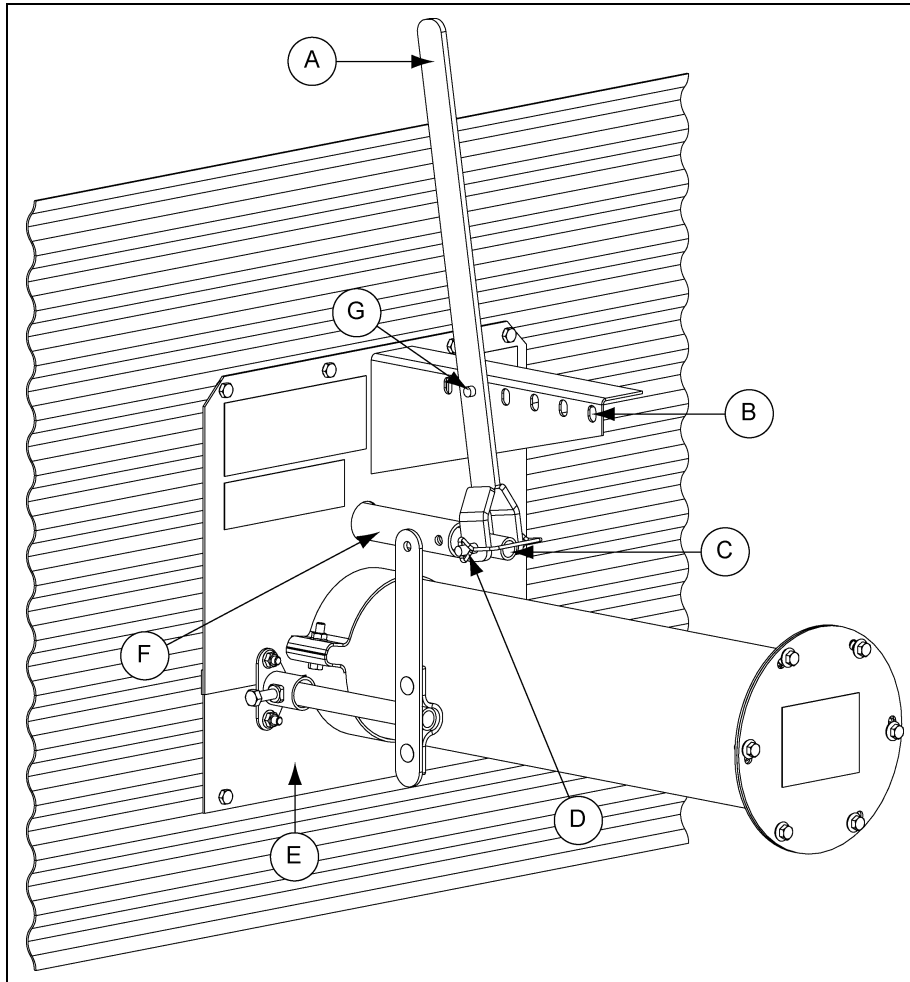
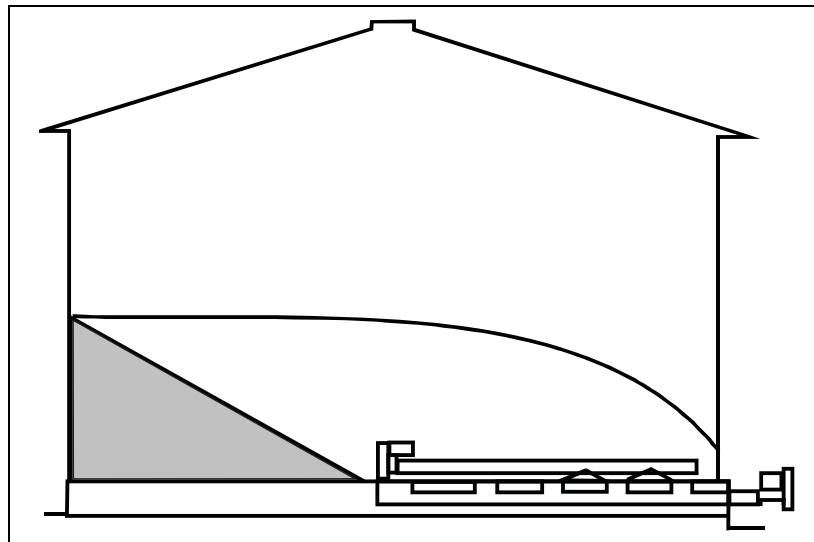

Figure 6A
Figure 6D
2. The safety snap pin should be inserted through the center well control rod and the control lever. Make sure it has NOT been inserted through the intermediate well control rod. (See Figure 6A.)
3. Place control lever in the second slot and pull lever to open gradually until the desired flow is established. (See Figure 6A.) It should not be necessary to open the gate more than 3" to 6".
6. Gradually open gates using the middle pivot slot until the desired flow of grain is reached. You should not open the gates more than 2" to 4". If gates need to be opened further, use the last slot for more leverage. (See Figure 6A on Page 43.) The remaining grain should look similar to Figure 6D.
6. Gradually open the gates until the desired flow of grain is reached. You should not open the gate more than 2" to 4". The remaining grain should look like Figure 6D on Page 44.